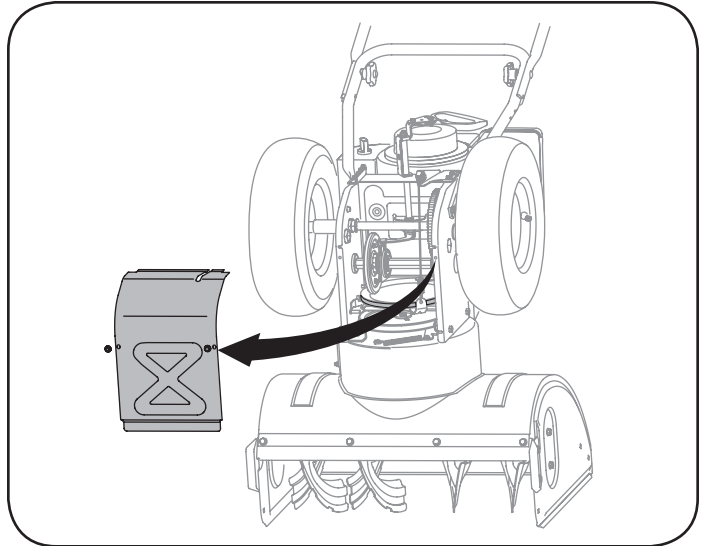

Figure 23
5. Remove the frame cover from the underside of the snow thrower by removing four self-tapping screws which secure it. See Figure 23.
5. Remove the frame cover from the underside of the snow thrower by removing four self-tapping screws which secure it. Refer to Figure 23.